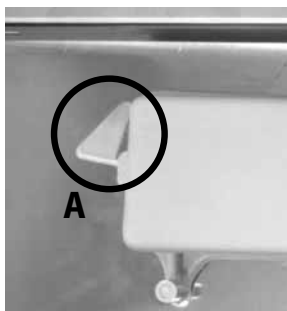

Fig. 5
- b) By tilting the clack (Fig. 5, Note A) into the bottom limit position, open the air output in the appliance upper front section.